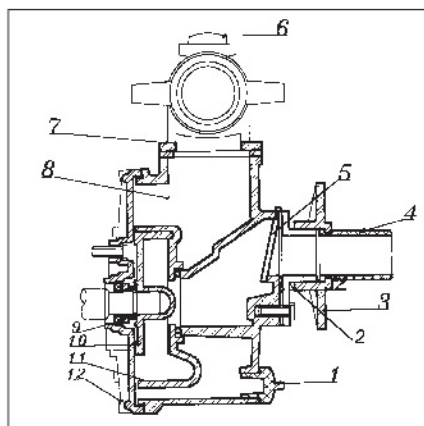

Fig 2-2 Structure diagram of self-priming pump.
4.If the gap between impeller and the surface of flow guidance is over 1mm, so that it can be continuous to be used after adding an adjustment shim on the shaft shoulder. see Fig 2-2.